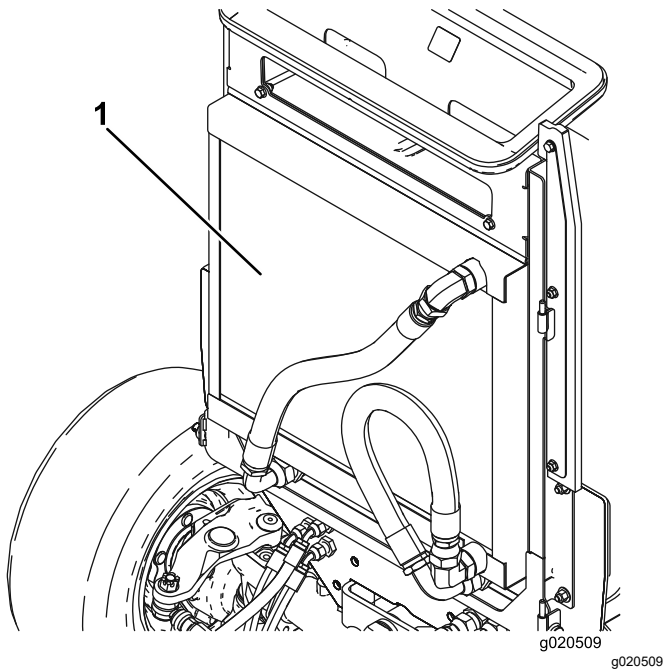

Figure 79
5. Thoroughly clean both sides of the oil cooler and the radiator with compressed air (Figure 79).